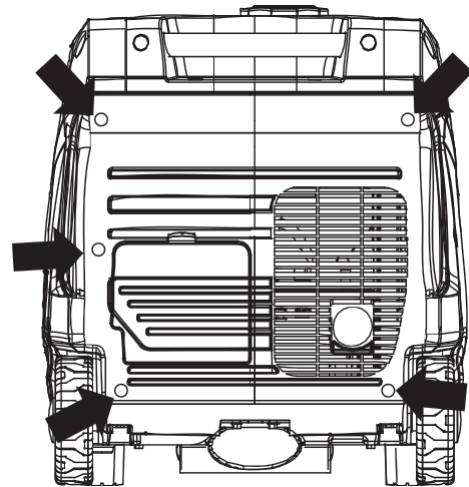

Figure 20: Remove Muffler Access Panel
- Remove the screws holding the muffler cover in place (see Figure 20).